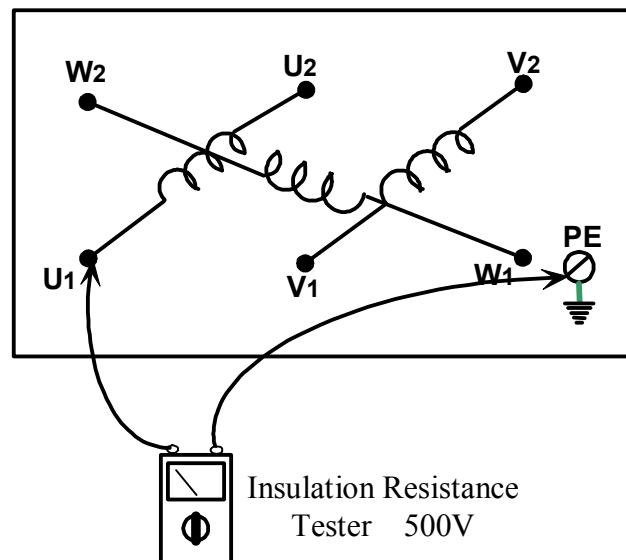

Figure 23
Step 3: Measure the insulation resistance between the U winding and frame. Some motor manufacturers recommend a reading of not less than 10 M Ω however a reading of not less than 2 M Ω is generally accepted. See Figure 23.